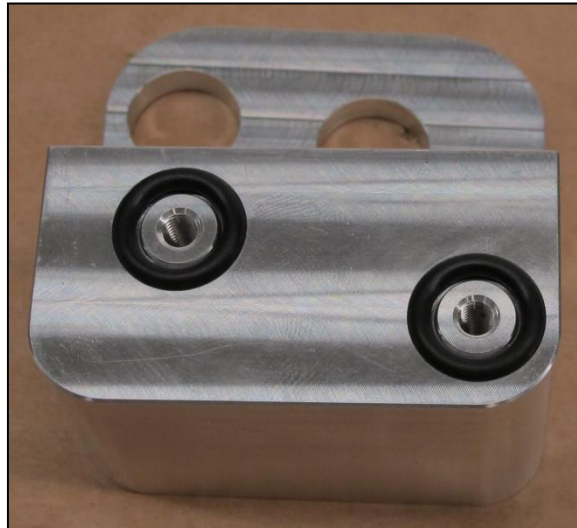

Fig. 8: O-rings for sealing the fastening angles
15. Insert the provided O-rings into the intended recesses of the fastening angles (fig. 8).